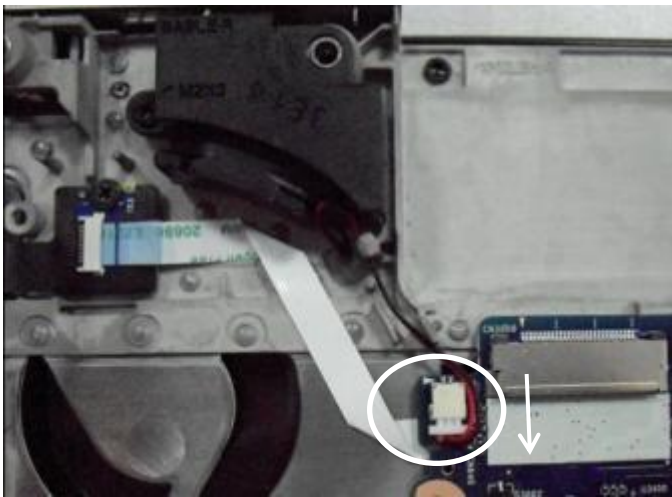

Fig.2
2. Disconnect speaker cable -R from M/B, disassembly the cable. (Fig.2)